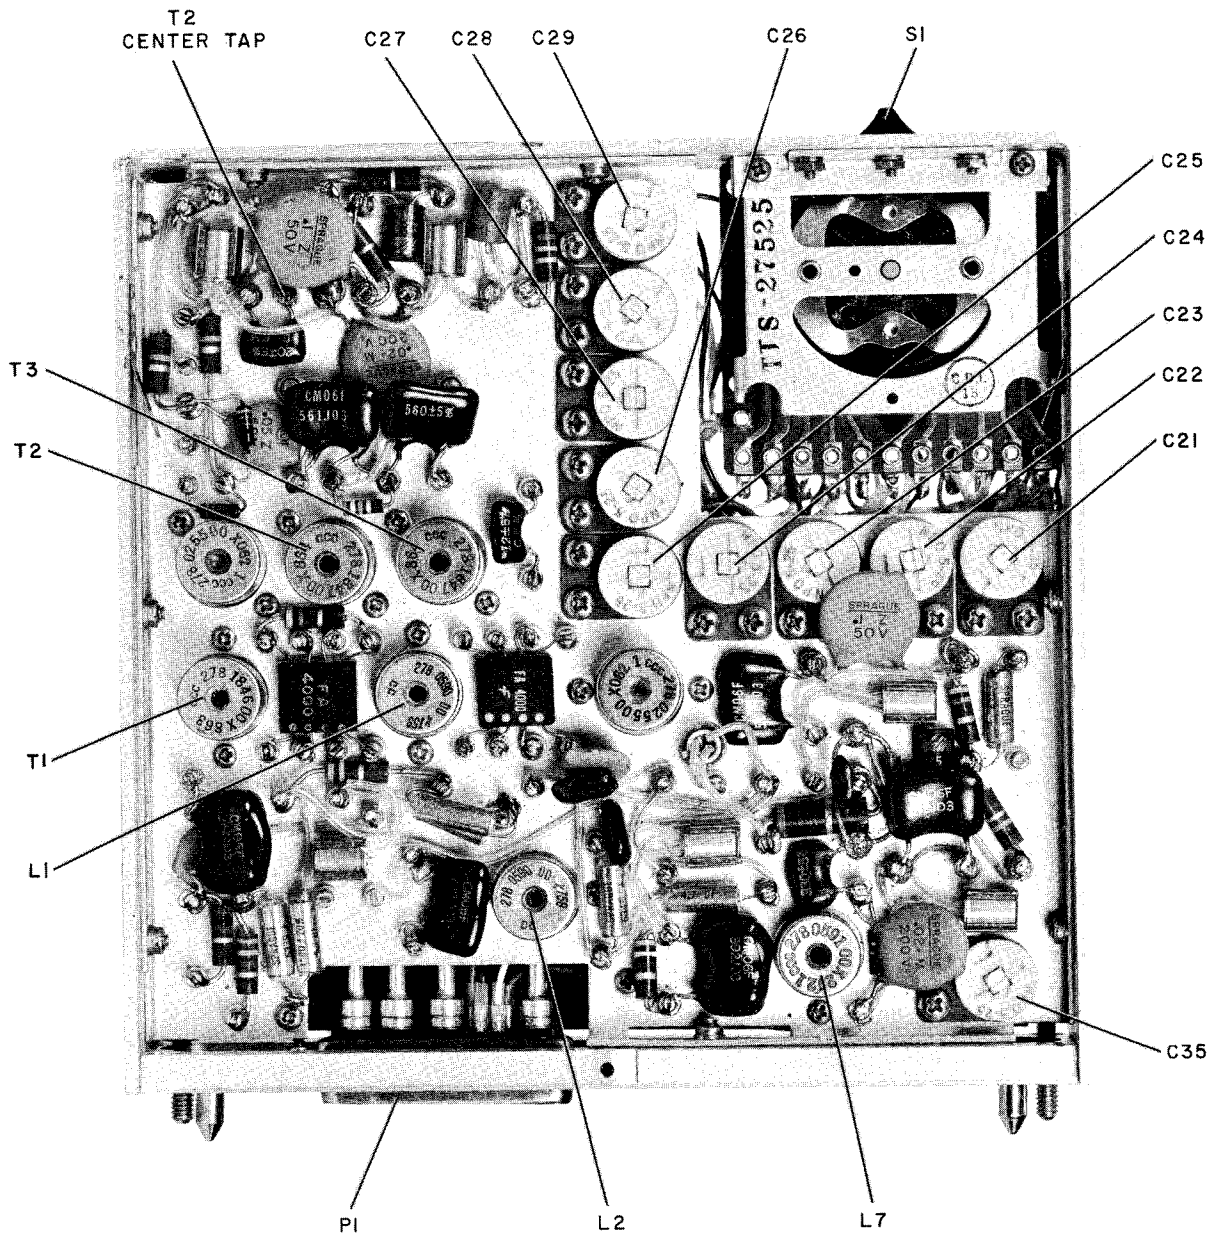

Figure 5-6A. Converter-Oscillator CV-731/URC, 0.1-Kc Tuning Module CV-1749( )/UR; Alignment Points
(d) 0.1-KC TUNING MODULE ALIGNMENT. - Refer to figure 5-6A.
9. Connect Frequency Meter AN/USM-26 (frequency counter) to the center tap of T2 (see figure 5-6A).